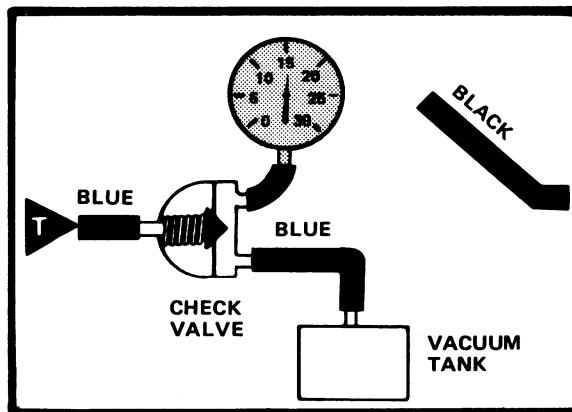

Figure 1 — System Supply Test
1. Connect **Vacuum Tester** to system side of **Check Valve** (Figure 1).